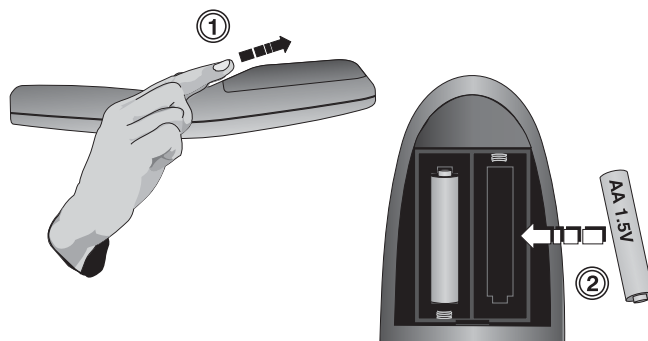

Figure 4.1. Replacing Batteries
- 1) Open the battery compartment at the backside of the keypad by placing your thumb in the oval depression and sliding the cover out about ½ inch. See Figure 4.1. Remove the old batteries and properly discard. Wait a minute or two.